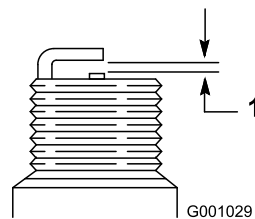

Figure 50
4. Set the gap between the electrodes on a new spark plug at 0.76 mm (0.030 inch) as shown in Figure 50.